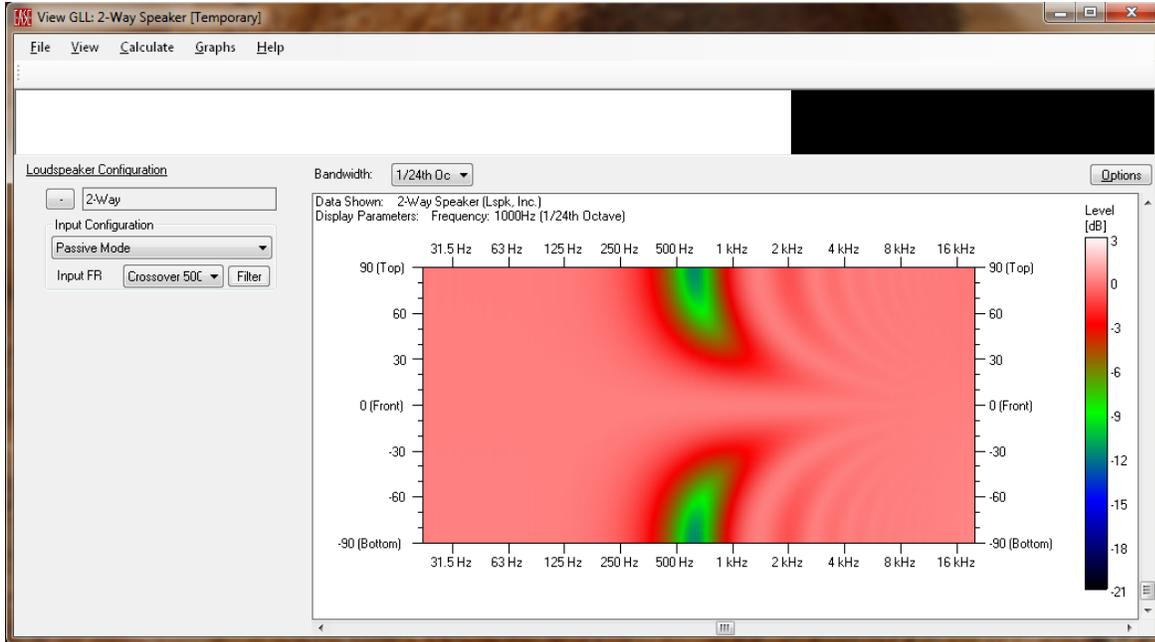

Figure 2-166 – Vertical directivity map with the 500 Hz crossover
Before we move on let us also examine the vertical directivity map (`GRAPHS > VERTICAL MAP`) for this GLL for each crossover frequency. The initial view will show a 3D perspective of the directivity map. This can be changed to an overhead (plan) view by clicking `VIEW > PLAN VIEW (Z)` (or `ALT+Z` three times). Each time the `ALT+Z` command is issued it will rotate the map 90°. It takes three rotations until lower frequencies are at the left and higher frequencies are at the right. The map should look something like Figure 2-166. To make it look exactly like Figure 2-166 click on `OPTIONS` and check the `FIXED COLOR LEGEND` box and change the `UPPER LIMIT [DB]` to 3 and the `LOWER LIMIT [DB]` to -21. Then click `OK`.